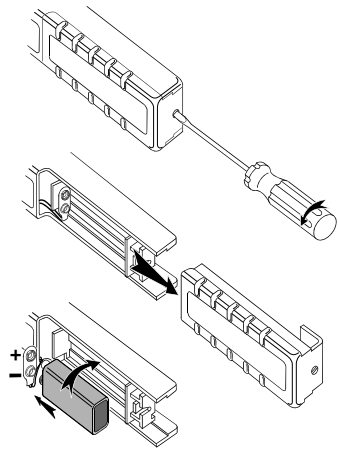

Figure 2. Installing the Battery
- At first use, remember to install the battery. Referring to Figure 2, use the following procedure to install the battery:
3. Locate the battery cover on the handle. (see Figure 2.) Loosen the screw with a flat-blade screwdriver.
5. Install the battery (IEC 6LR61) as shown in Figure 2. Arrange the battery leads so that they will not be pinched between the handle bottom and the battery cover.